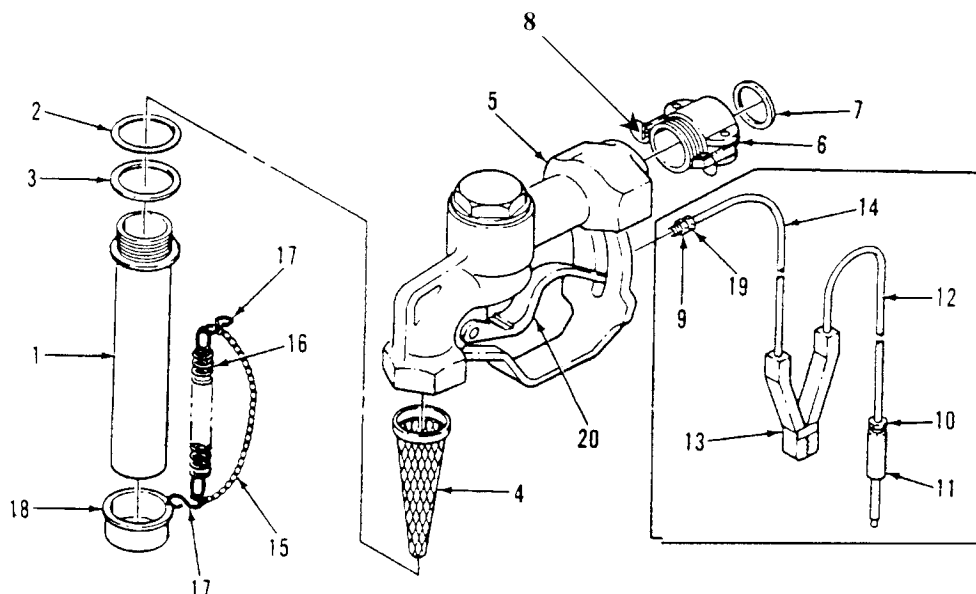

Figure 4-13 Nozzle Assembly.
(1) Position a suitable container beneath nozzle, remove cap (18) and operate nozzle lever (20) to drain any remaining fuel from nozzle. See Figure 4-13
(2) Pull out on cam lock arms (8) of coupling half (6) and disconnect nozzle from dispensing hose (not shown).
- (1) Clean all metal parts with dry cleaning solvent and dry thoroughly.
- (2) Inspect nozzle body (5) and spout (1) for damage. Check free operation of lever (20). See Figure 4-13.
- (3) Inspect coupling half (6) for any damage. Check the gasket (7) and replace if damaged.
- (4) Check grounding wires (12 and 14) for breaks, fraying and broken or missing covering. Make sure clip (13) jaws close firmly and inspect plug (11) and nut (10) for any damage. If clip (13) or wire (12) are defective, replace complete static discharger assembly.
(1) Apply silicone compound to O-ring packing (2) and install it on strainer element (4). See Figure 4-13.
(2) Install strainer element (4) and gasket (3) on spout (1) and screw spout into nozzle body (5), hand tight.
(3) Screw plug (11) onto nut (10) and install the static discharger assembly by screwing contact (9) into nozzle body (5).
(4) Connect chain (15) and spring (16) to s-hooks (17) and squeeze the s-hook closed. Connect the s-hooks to the body (5) and cap (18) and squeeze closed. Install the cap (18) on spout (1).
(5) Apply sealing compound to threads of coupling half (6) and screw coupling half into body (5). Install gasket (7).